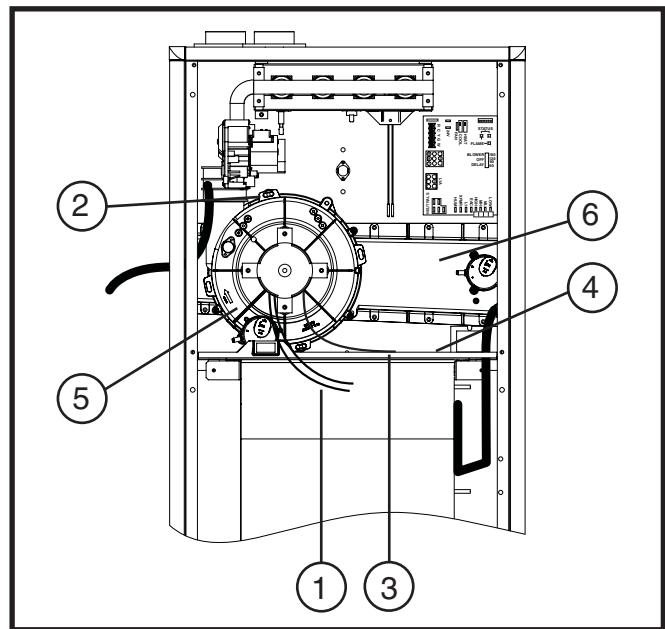

Figure 17. Inducer Assembly Rotation
1. Disconnect the electrical harness (1) from the inducer assembly (2) as shown in Figure 17.
2. Remove the inducer assembly ground wire (3) from the blower deck (4) or door.
3. Remove three screws (5) securing the inducer assembly (2) to the header box (6).
4. Rotate the inducer assembly (2) to its new position.
5. Secure the inducer assembly (2) to the header box (6) by reinstalling the three screws (5). If the inducer assembly is rotated to the left or right side of the furnace, use the extra screw provided in the parts package.
6. Remove the cabinet plug (7) from side of furnace and reinstall in hole on opposite side of cabinet.